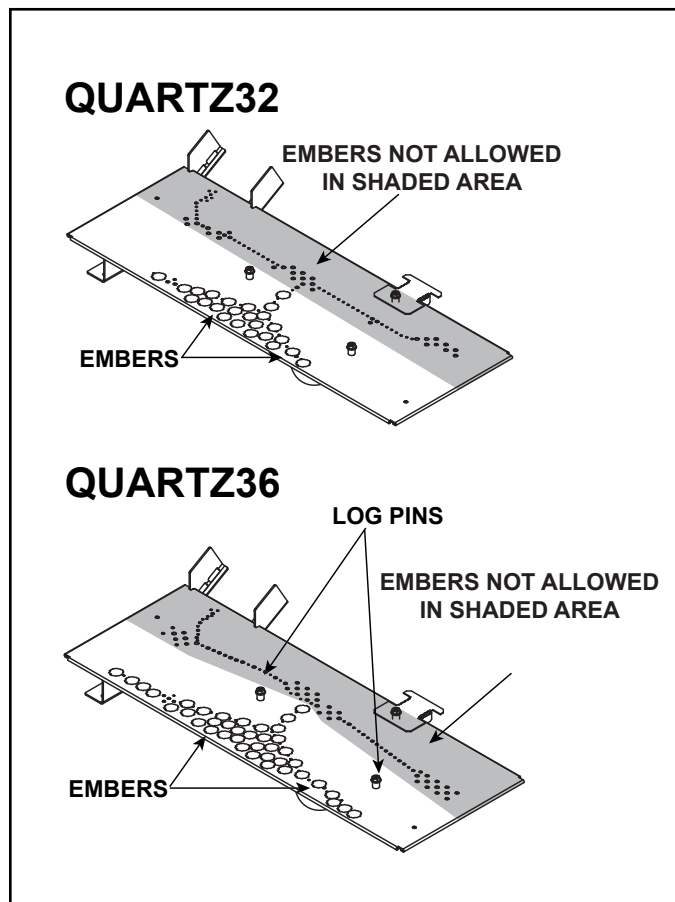
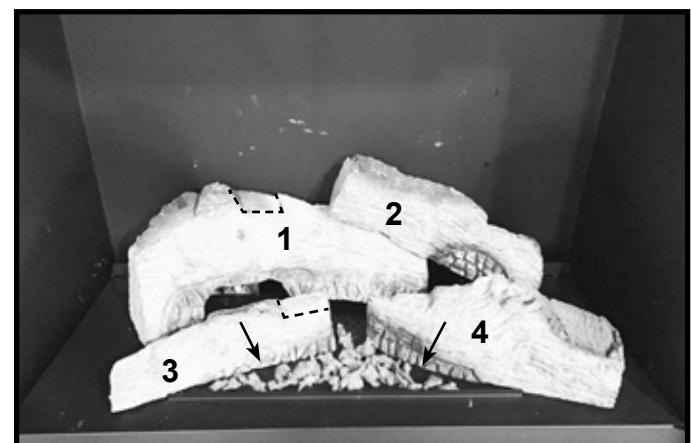
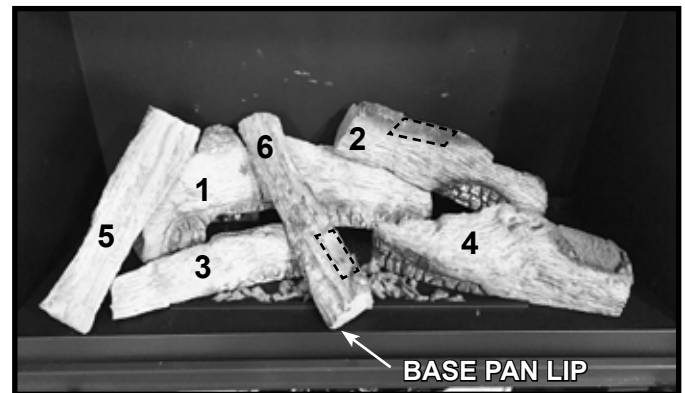

Figure 1. Log Pin and Glowing Ember Locations
Figure 8.
Figure 11. Install Middle Left Cross Log
6. Locate the glowing embers and install them as shown in Figure 1. Do not install any glowing embers on the back row of burner ports. Glowing Embers can be placed directly over burner ports; however, for optimal front flame height, place glowing embers around the burner port clusters indicated by the “arrows” shown in Figure 8.
9. The Middle Left Cross Log (6) will rest on the voids and the base pan lip as shown in figure 8. Install log by placing it on top of the log voids. The tip of the log will contact front lip of base pan. See Figure 11.
10. The middle right cross log (7) will rest on two voids shown in Figure 11, install log by placing it on top of these voids. See Figure 12.